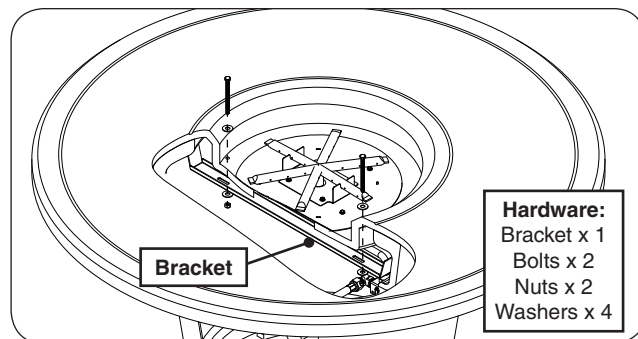

Fig. 22-4 Install bracket
5. Locate the supplied support bracket kit and install as shown in Fig. 22-4. The bracket must be inserted into the enclosure through the door opening, aligned with the holes found on the burner pan, and fastened with a 1/2" wrench and the supplied bolts (2), nuts (2), and washers (4).